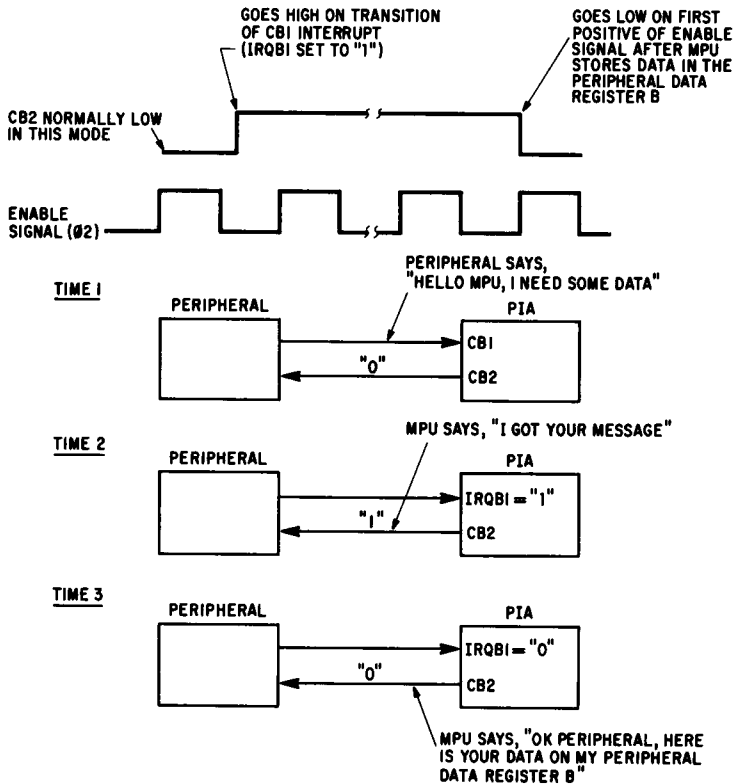

Fig. 9.19 Handshake mode
1. **Bits 5, 4, and 3 of CRB = 100 (Handshake Mode)** This mode is used when the MPU sends data to a peripheral device. The peripheral must tell the MPU it is ready for the data. After the MPU sends the data to peripheral data register B, it sends a signal to the peripheral telling it that the data is available at that register. After the peripheral takes the data, it can request more data, and the sequence is repeated. The typical sequence (see Fig. 9.19) is as follows: